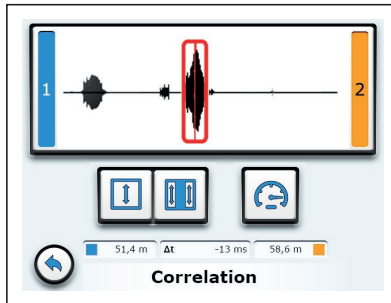

Fig. 27: **Correlation** menu
1. Tap the correlation curve. The receiver will switch to the **Correlation** menu (fig. 27).